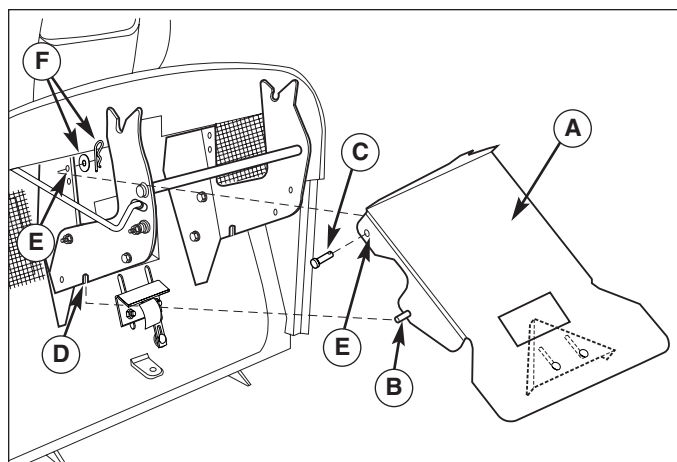

Figure 5. Install Deflector Plate
2. Slide deflector plate posts (B, Figure 5) into notches.
3. Mount deflector plate (A) by sliding clevis pins (C) through holes (E) securing with hair pins & washers (F).